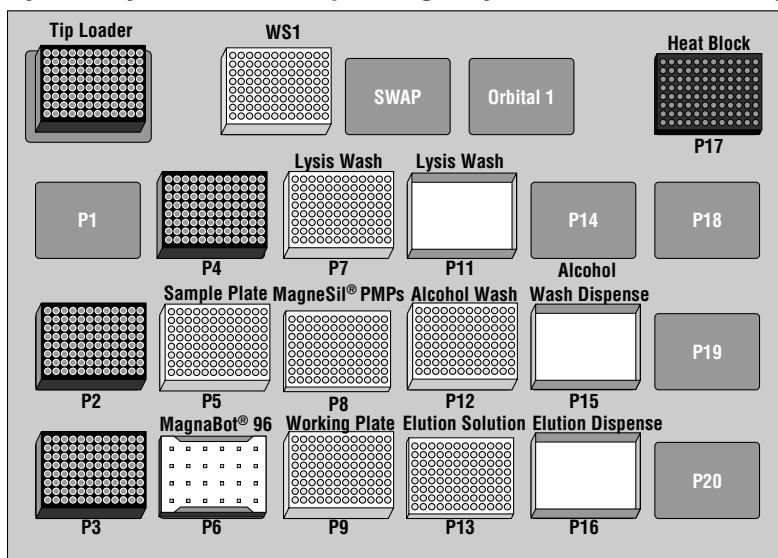

Figure 1. Biomek® FX initial deck configuration.
1. Prepare the wash buffer by adding 1 part 95–100% ethanol and 1 part isopropanol to 2 parts Alcohol Wash, Blood (e.g., 60ml of 95–100% ethanol, 60ml of isopropanol, and 120ml of Alcohol Wash, Blood). Mix well. This is called “Alcohol Wash” on the Biomek® FX Deck. Fill an inverted tip box lid with 140ml of this wash buffer and place on the deck at the “Alcohol Wash Dispense” position (Figure 1).
2. Fill two inverted tip box lids with 50ml Lysis Buffer, Blood (do not add Anti-Foam Reagent) and 40ml Elution Buffer or nuclease-free water, respectively, and place on defined positions on the Biomek® FX deck (Figure 1).
3. Thoroughly resuspend the MagneSil® PMPs–Fixed Yield and manually add  $15\mu\text{l}$  to each well of a 96-well Collection Plate. Place this “MagneSil® PMPs” plate on the deck as shown in Figure 1.
5. Place the plates and tips on the Biomek® FX deck as shown in Figure 1. It is important that a 1/4 inch Foam Spacer be placed onto the Deep Well MagnaBot® 96 Magnetic Separation Device.